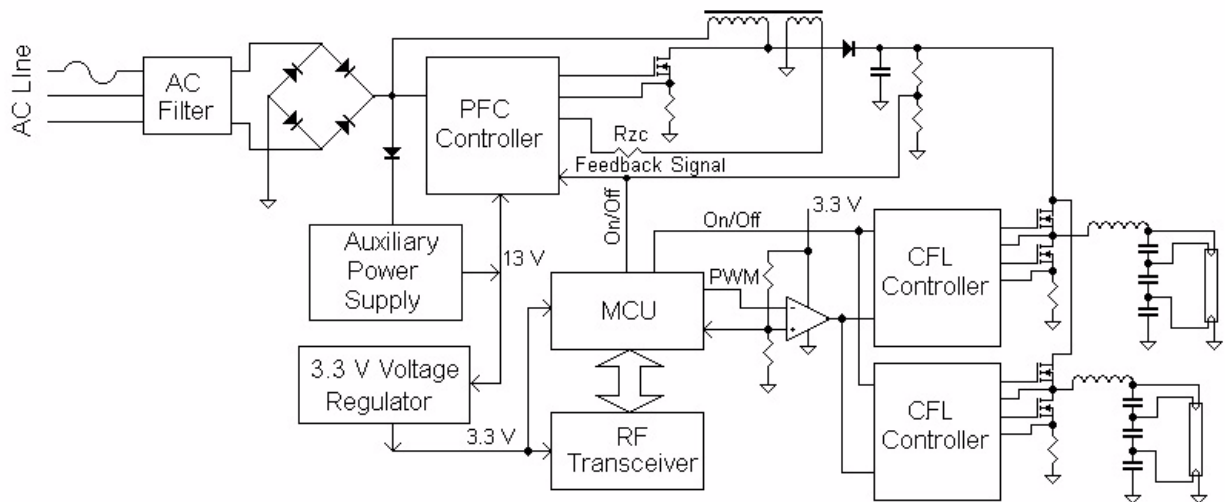

Figure 2. Fluorescent Ballast with ZAURA Control Demonstration Board Block Diagram
The dimensions of the Fluorescent Ballast Base Power Board are 10.5" (L) x 1.4" (W) x 1.2" (H). A block diagram of the Board is shown in Figure 2.